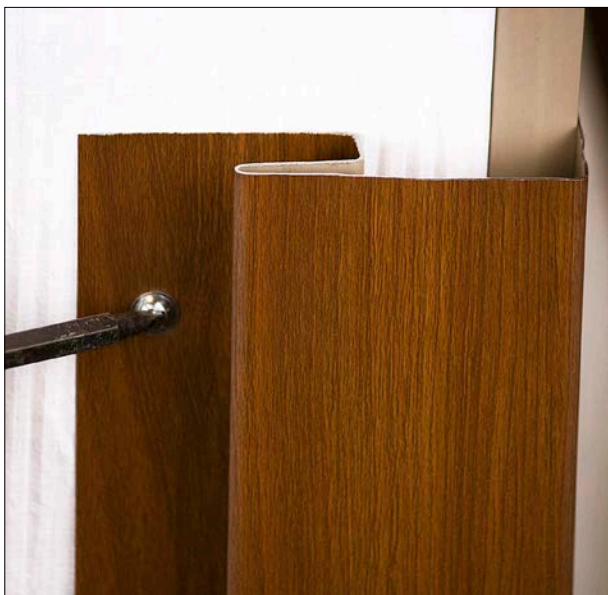

Fig.66
Step 3: Set the open outside corner (#711) in place and fasten (Fig.66).